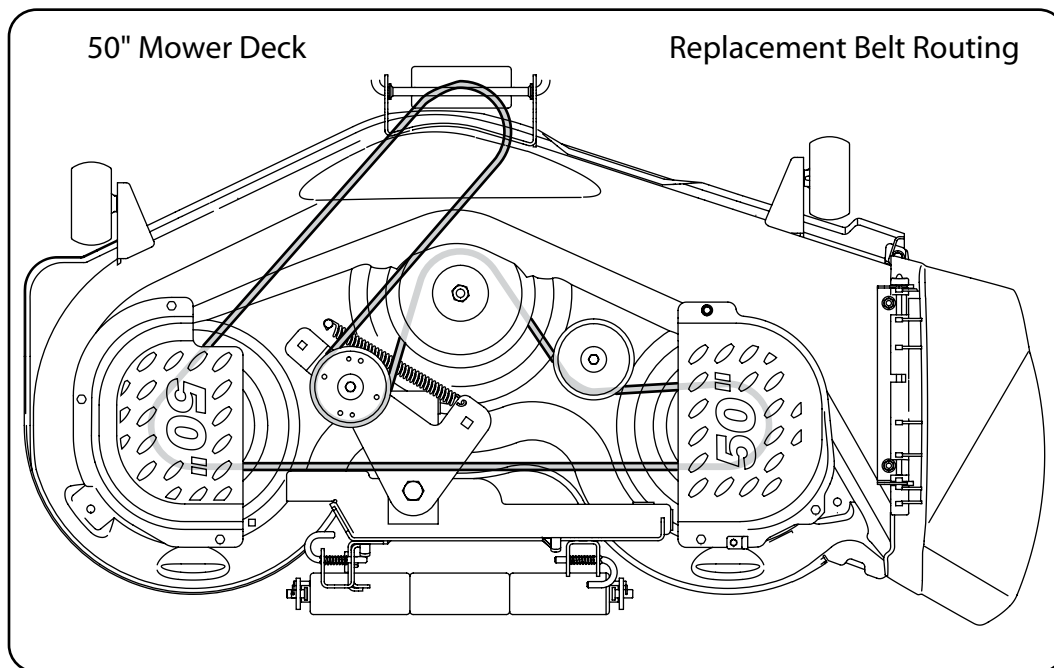

Figure 7-5 Replacement Belt Routing 50" Mower Deck
3. Route the deck belt around the spindle pulleys and idler pulleys as shown in Figure 7-5.